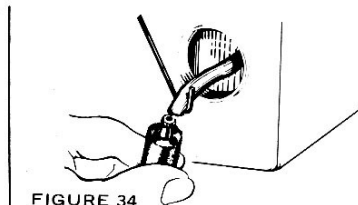

FIGURE 34
5. **FUEL FILTER:** Periodically replace the felt filter element located in the fuel tank. This will ensure that an unhindered flow of filtered fuel reaches the carburetor. Replacement elements are available through your local Pioneer dealer. See Figure 34.